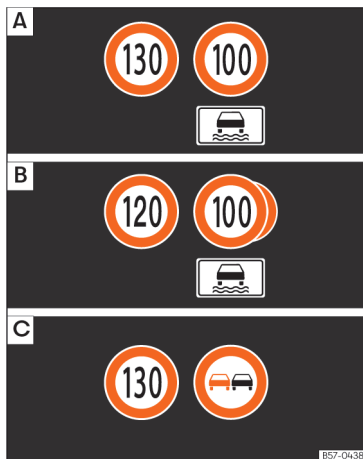

Fig. 11 On the instrument panel display: examples of speed limits or overtaking prohibitions with their respective additional signs.
The road signs detected by the system are displayed on the instrument cluster display >>> Fig. 11 and, depending on the navigation system fitted in the vehicle, in the infotainment system as well.
After checking and evaluating the information from the camera, the navigation system and the current vehicle data, the system displays up to three current road signs >>> Fig. 11  with their additional signs.
- **First:** The sign that is currently valid for the driver is shown in the left side of the screen for example, a maximum speed limit of 130 km/h (100 mph) >>> Fig. 11 .
- **Third:** Thirdly, a sign prohibiting overtaking is partially displayed. If there is no conditional speed limit and overtaking is prohibited, the latter sign will be displayed in second place >>> Fig. 11 .